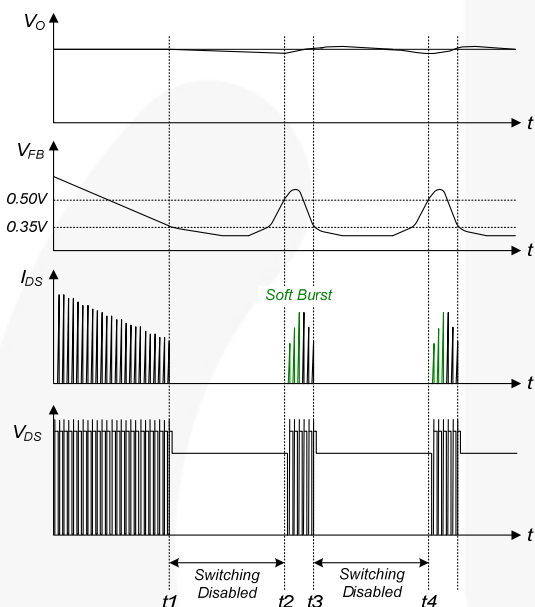

Figure 26. Burst-Mode Operation
**5. Soft Burst Mode:** To minimize power dissipation in Standby Mode, the FSL137MRIN enters Burst-Mode operation. As the load decreases, the feedback voltage decreases. As shown in Figure 26, the device automatically enters Burst Mode when the feedback voltage drops below  $V_{BURL}$  (350 mV). At this point, switching stops and the output voltages start to drop at a rate dependent on standby current load. This causes the feedback voltage to rise. Once it passes  $V_{BURH}$  (500 mV), switching resumes. The feedback voltage then falls and the process repeats. Burst Mode alternately enables and disables SenseFET switching, reducing switching loss in Standby Mode.